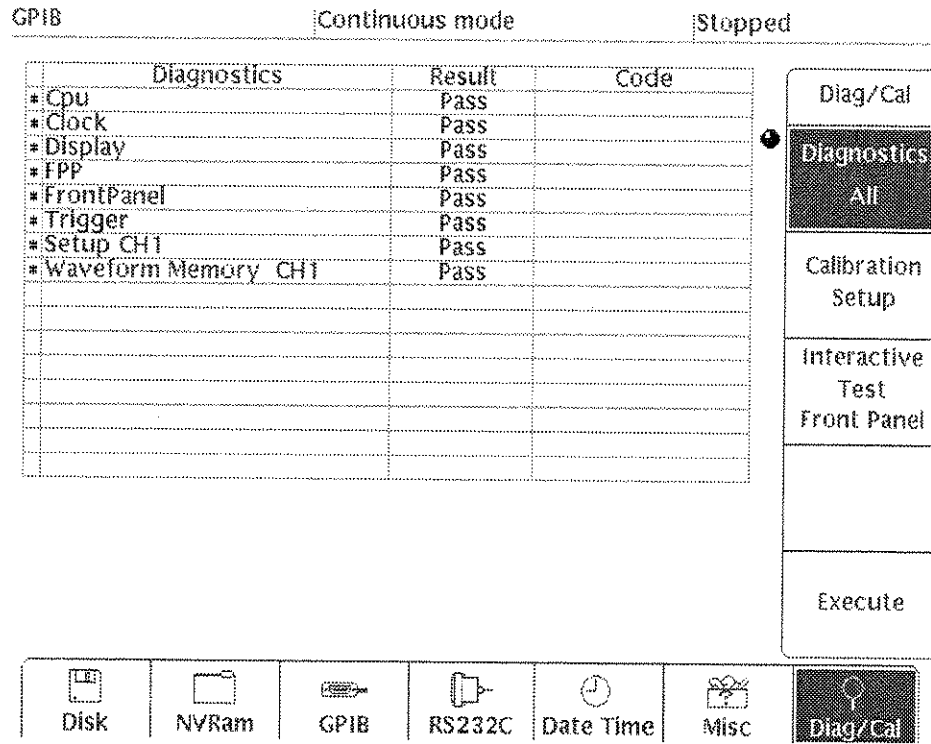

Figure E-1: Diagnostics Menu
- a. *Display the diagnostics menu and select all tests:* Push **UTILITY**→**Diag/Cal**→**Diagnostics xxxx**→**All**. See the menu in Figure E-1.
The list on the left shows the tests available for diagnostics. In addition to selecting all of the tests shown for diagnostics, you can select only the test(s) you want to run using the general purpose knob. In Figure E-1, the symbol to the left of Cpu indicates that test is one of the tests selected. The Interactive Test area is reserved for manufacturing at the factory.